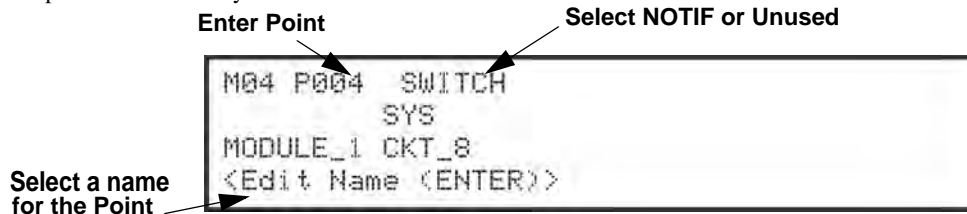

Figure 9.6 Programming Points Screen for the Amplifier Module
12. Press the up or down arrow key to select the desired function. (See Figure 9.6), then press ENTER.